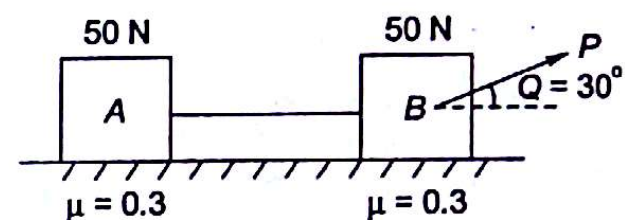

Fig. 6.26
- 6.6 Two blocks A and B are connected through a string. Weight of each block is 50 N. Coefficient of friction between each block and floor is 0.3. An inclined force P is applied to start sliding of the system. What is the minimum value of P required (Fig. 6.26)?